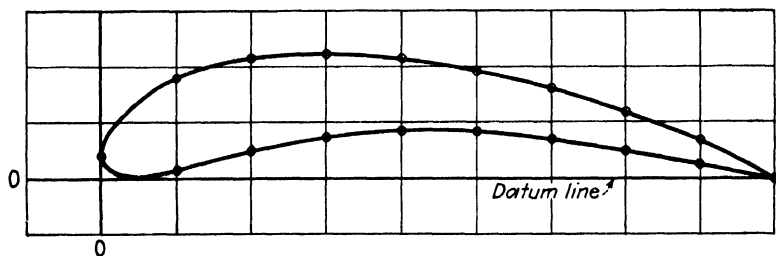

Fig. 312.—Airfoil section.
57. Make a table of data to fit the airfoil shown in Fig. 312, accurate to the nearest 64th.